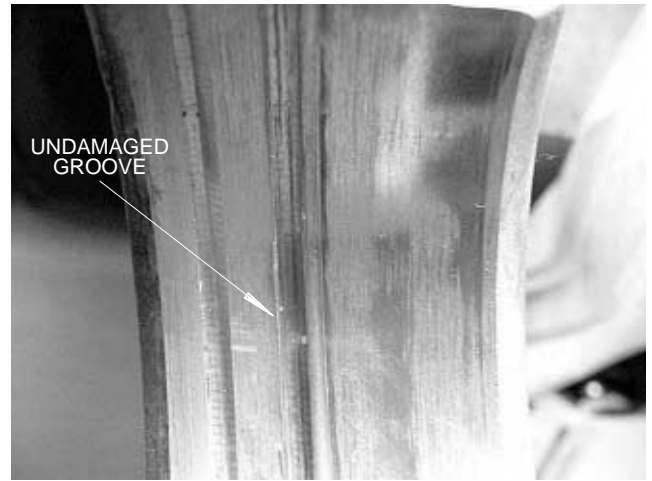

Figure 76
10. Inspect center plate for cracks and damage. Replace center plate if the snap ring groove has more than 15% of its edges damaged due to nicks, rounding, cracks, or dents (Fig. 76 and 77).